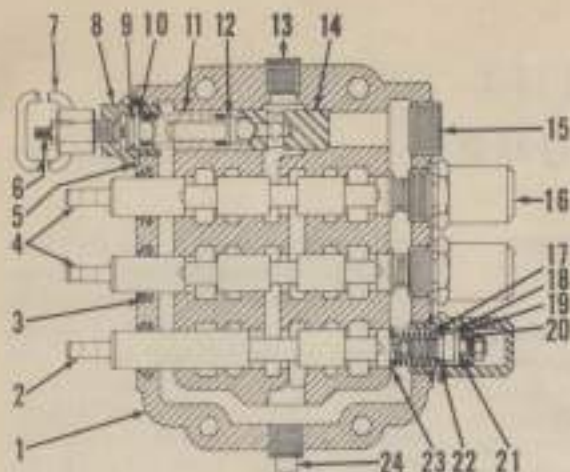

Fig. 169 — Cut-away view of later production 3-spool remote control valve (optional equipment). A similar 2-spool valve is also available.
**253. TWO OR THREE-SPOOL REMOTE CONTROL VALVES.** Cross-sectional view of the three spool valve is shown in Fig. 168 and Fig. 169.
lockout. See Fig. 169. To adjust the relief valve in this type remote control valve, connect a pressure gage to a remote spool port and pressurize the port. To adjust relief pressure, loosen jam nut on pressure adjusting screw (6) and adjust screw to obtain 2200-2400 psi on gage; then retighten jam nut. When not using remote ram cylinders, the relief valve lockout ball (7) may be turned all the way in. This will provide a maximum of 3600 psi for operation of the tractor lift arm ram cylinder, as the unloading valve in the tractor pump will act as system relief valve. CAUTION: The relief valve ball should be turned all the way out whenever operating remote cylinders.
To renew spool seals (3), unhook control lever from spool and clean all paint, rust, etc., from exposed end of spool. Remove cap (18—Fig. 168 or 16—Fig. 169) and withdraw spool assembly from valve housing. Seal in housing can then be renewed. Carefully reinstall spool through housing and seal. Reinstall cap and control lever. The valve centering spring assembly can be inspected and renewed without removing valve spool from housing.
Note that centering spring retainer (20—Fig. 169) in late production valve incorporates a seal (21) between the retainer and cap. The seal
To inspect or renew pressure relief valve or spring, or renew "O" ring seals, loosen jam nut on relief valve adjusting screw and back screw out. Then, loosen and remove adjusting screw retainer (10—Fig. 168 or 8—Fig. 169). Spring, spring guide and
valve ball or plunger can then be removed. To remove seat, first remove plug (17—Fig. 168 or 15—Fig. 169) and drive the seat from housing. Reverse disassembly procedures to reassemble valve. Note: Install relief valve spring with out-of-square end towards valve.